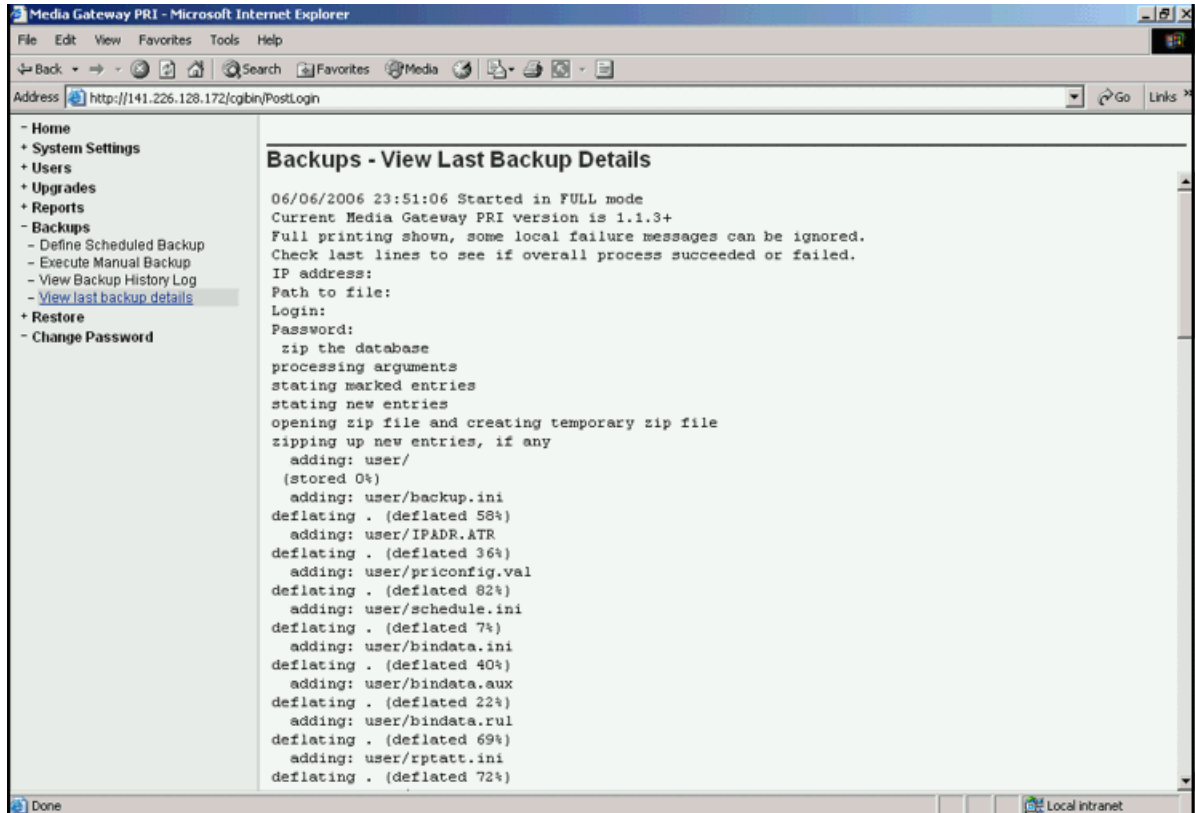

Figure 44: View Last Backup Details window
- the View Last Backup Details window as shown in Figure 44: View Last Backup Details window on page 141